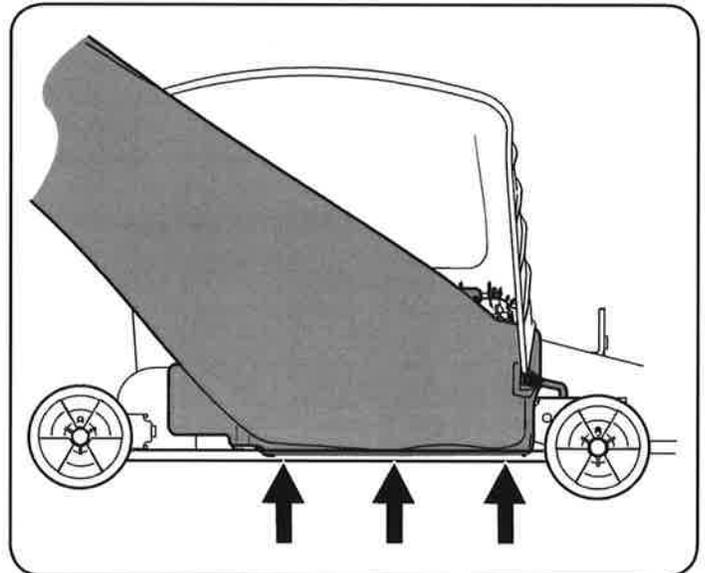

Figura 48
**IMPORTANT:** Be certain that the bottom of the discharge chute is located inside of the lip of the deck opening, as shown in Figura 48.
**Important:** Regardless of what model of tractor you are installing this bagging kit on, be certain that the bottom of the discharge chute is located down *inside* of the lip of the deck opening, as shown in Figura 48.